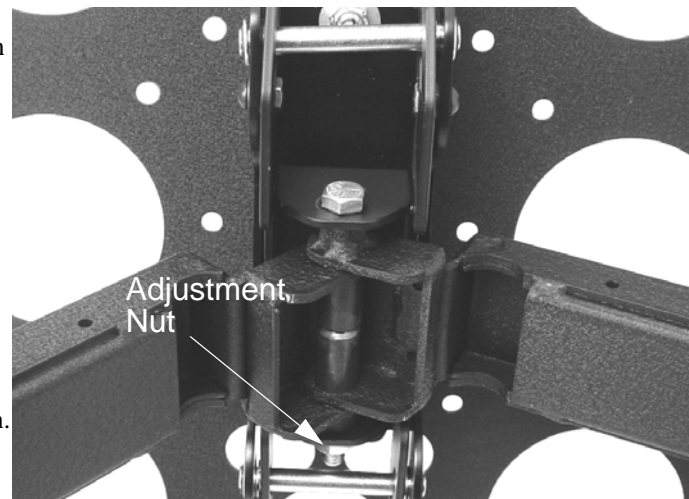

Figure 6. Lateral Tilt
1. Using a 3/8" wrench (not provided), slightly tighten or loosen lateral tilt tension adjustment nut (see Figure 6).